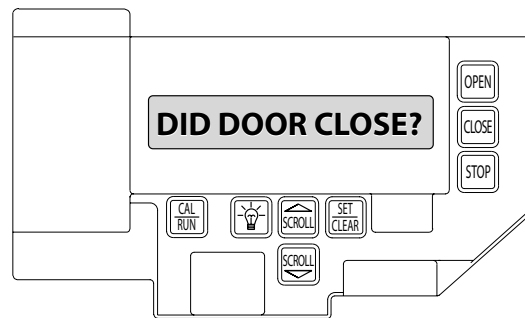
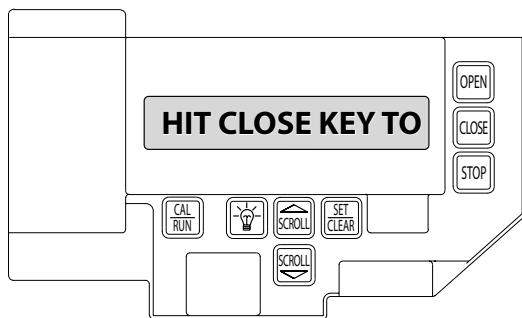

FIG. 3
FIG. 2
3. Display will read HIT CLOSE KEY TO TEST. Briefly press the CLOSE key. FIG. 2 (Pressing the Scroll key at this point will exit this function). * The display will read DID DOOR CLOSE >YES< NO FIG. 3.